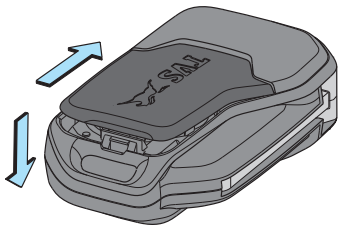

Fig. 16
- Insert the cover key fob from the front shown in the figure and gently press the cover from the top to fix it back (**ref. Fig. 16**).